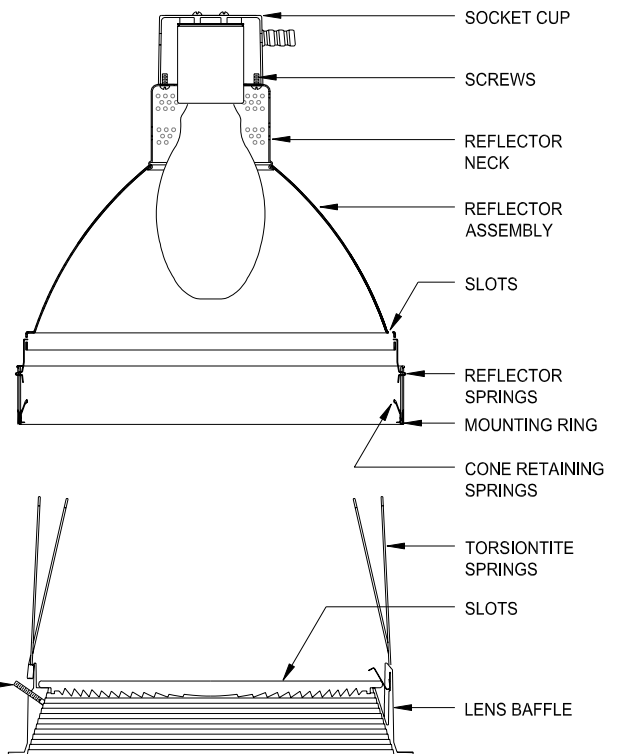

FIG. 1
- 1: Attach SOCKET CUP to REFLECTOR ASSEMBLY by aligning (3) SCREWS with key slots in REFLECTOR NECK, then tighten screws. (Fig. 1)
- 2: Raise REFLECTOR ASSEMBLY/SOCKET CUP into MOUNTING RING of Frame-In Kit or Cylinder, align REFLECTOR SPRINGS with upper slots in MOUNTING RING until springs snap in place. (Fig. 1)
- 3: Before lamping, make sure power is disconnected to fixture. Install lamp into lampholder, (Fig. 1)
- 4: After REFLECTOR ASSEMBLY is installed, attach LENS BAFFLE by squeezing TORSIONTITE SPRINGS together and insert through SLOTS in REFLECTOR, then push up. (Fig. 1)